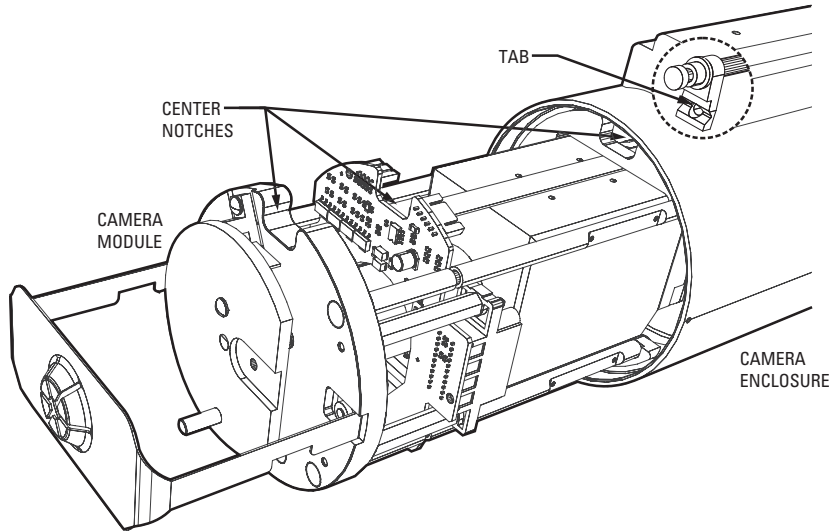
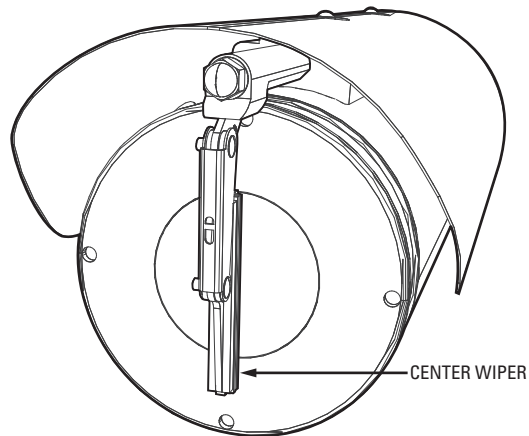

Figure 6. Install Camera Module
Figure 7. Center Wiper
- Slide the camera module into the camera enclosure. Refer to Figure 6 to position the camera module properly in the camera enclosure. Carefully mate the camera's power connector to the mating connector located inside the camera enclosure.
Models with a wiper: The tab located inside the camera enclosure must be pointing down before installing the camera module (refer to Figure 6). To position the tab, place the wiper, located at the front of the camera enclosure, in the center of the viewing window (refer to Figure 7).